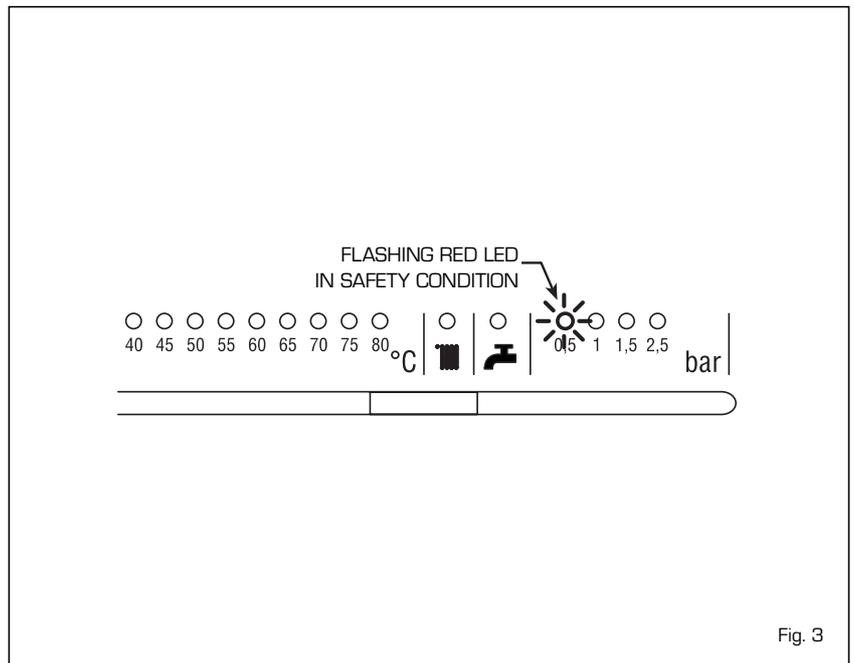

Fig. 3
- Insufficient water pressure (fig. 3)